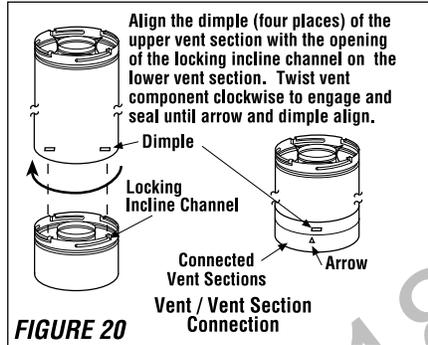

FIGURE 20
C. Attach vent components to each other - Other vent sections may be added to the previously installed section in accordance with the requirements of the vertical vent figures and tables. To add another vent component to a length of vent run, align the dimpled end over the inclined channel end of the previously installed section, adjusting the radial alignment until the four locking dimples are aligned with the inlets of the four incline channels of the previous section. Push the vent component against the previous section until it fully engages, then twist the component clockwise running the dimples down and along the incline channels until they seat at the end of the channels. **This seating position is indicated by the alignment of the arrow and dimple as shown in Figure 20.**